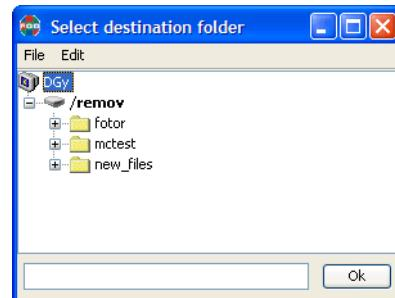

Figure 4-12. FTP Upload Destination Folder
Step 7. Click on the **Browse** button in the **Destination** window to navigate to the folder where you wish to store the transferred files (see Figure 4-12 below). Alternatively if you know the path name you can type this directly into the **Pathname** entry box at the bottom of the window.